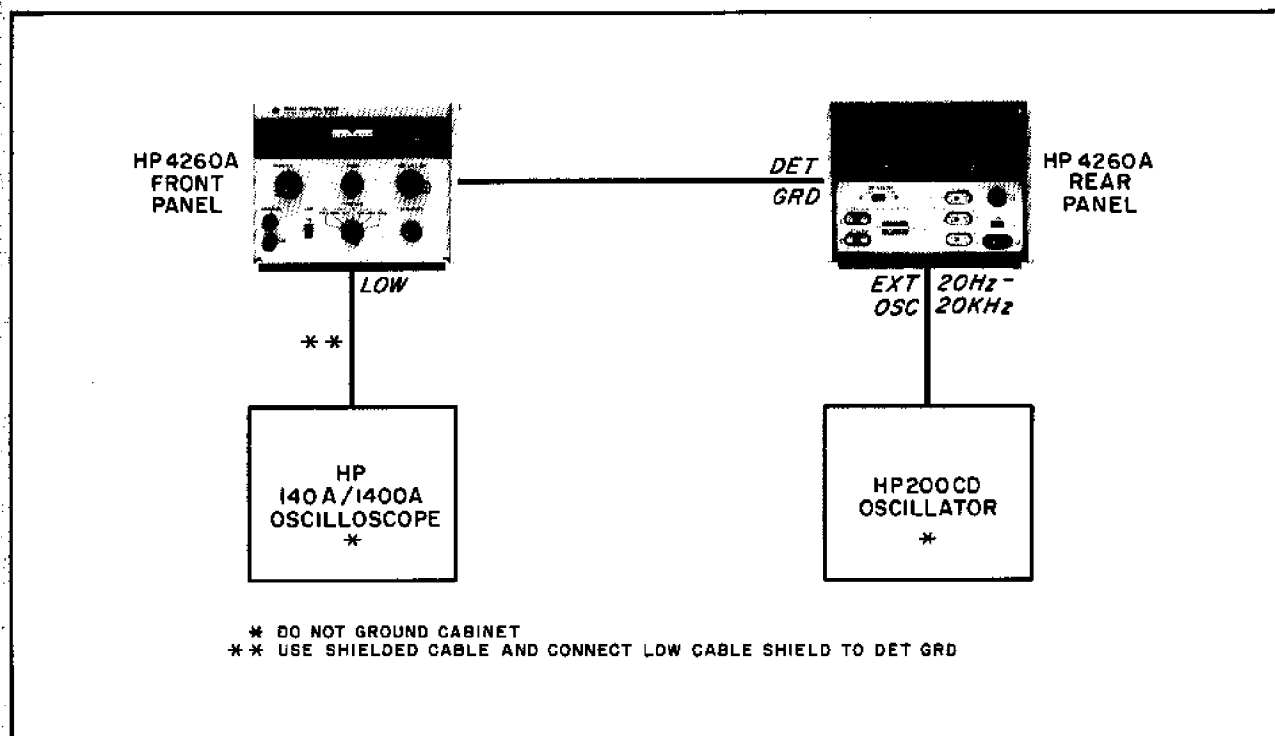

Figure 5-5. Test Setup for Adjustments
- 5-30. INTRODUCTION.** The procedures in Paragraphs 5-31 through 5-38 outline checks and adjustments for the components in the bridge circuit. These include fixed 0.2 μ F capacitor C1, compensating capacitor C305, CRL resistor R3, trimmers C103, C104, C3, and accuracy of resistors in the RANGE switch. The test equipment setup is shown in Figure 5-5. These checks and adjustments should be performed in the order listed when a comprehensive overall instrument checkout is desired. Test equipment for these checks is listed in Table 5-6.
5-31. C1 CHECK. To check fixed bridge capacitor C1, connect the instruments as shown in Figure 5-5.
a. Connect the test setup as shown in Figure 5-5.
a. Connect test equipment setup as shown in Figure 5-5.
- a. Connect test equipment as shown in Figure 5-5.
- a. Connect test equipment setup as shown in Figure 5-5.
- a. Connect test setup as shown in Figure 5-5.